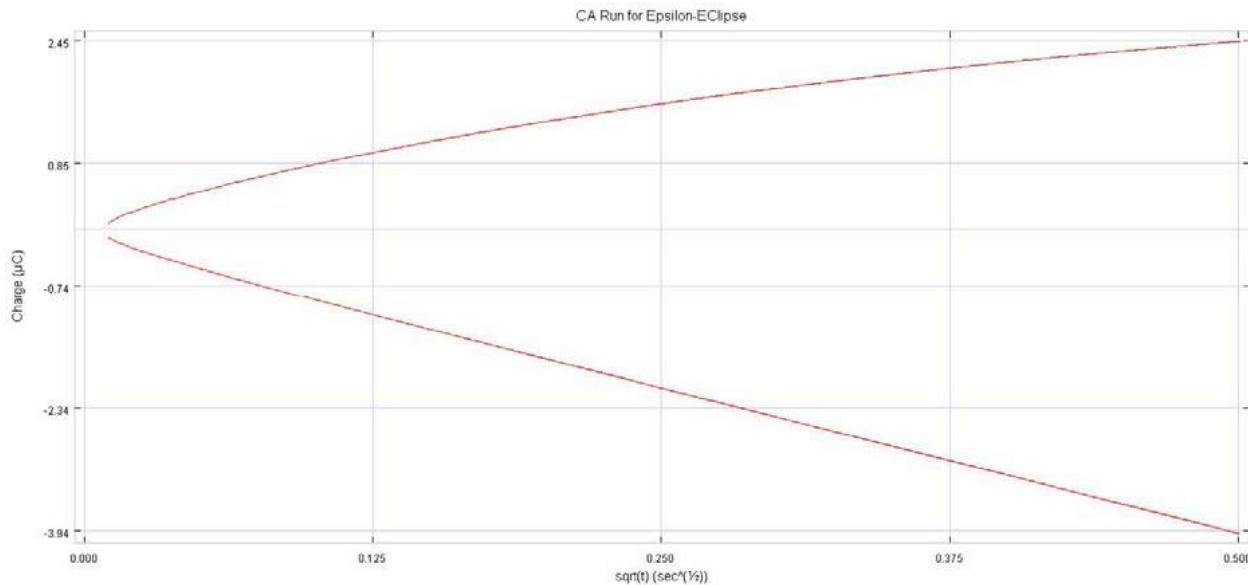

Figure 11 - Q vs. \sqrt{T} plot for Chronoamperometry/Chronocoulometry
12. The data from a **Chronoamperometry/Chronocoulometry** experiment can be plotted in a number of different formats, which can be selected using **Select Graph Type** in the graph menu, or by right-clicking on the graph. The **Q vs. \sqrt{T}** plot is shown in **Figure 11**.